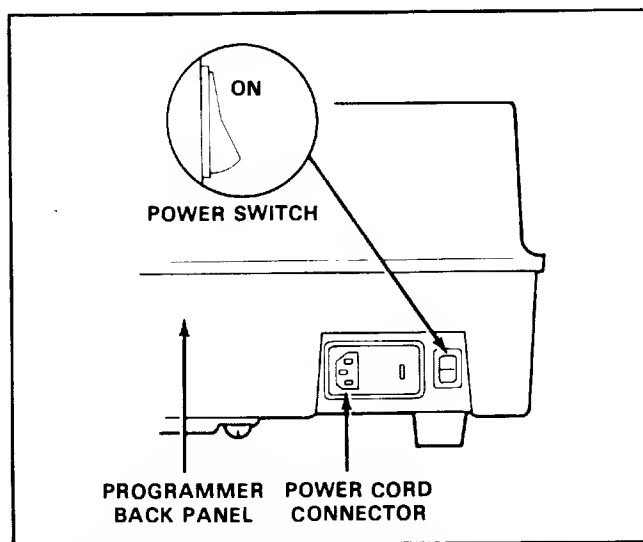

Figure 3-2. Programmer Power Switch Location
3. Lift the power switch up to the *ON* position (see figure 3-2).
3. Push the power switch down to the *OFF* position (figure 3-2).